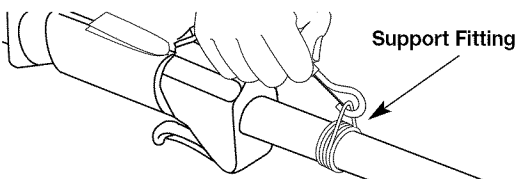

Fig. 6
3. Put the harness on over head and onto shoulder. Snap it on to the support fitting (Fig. 6).